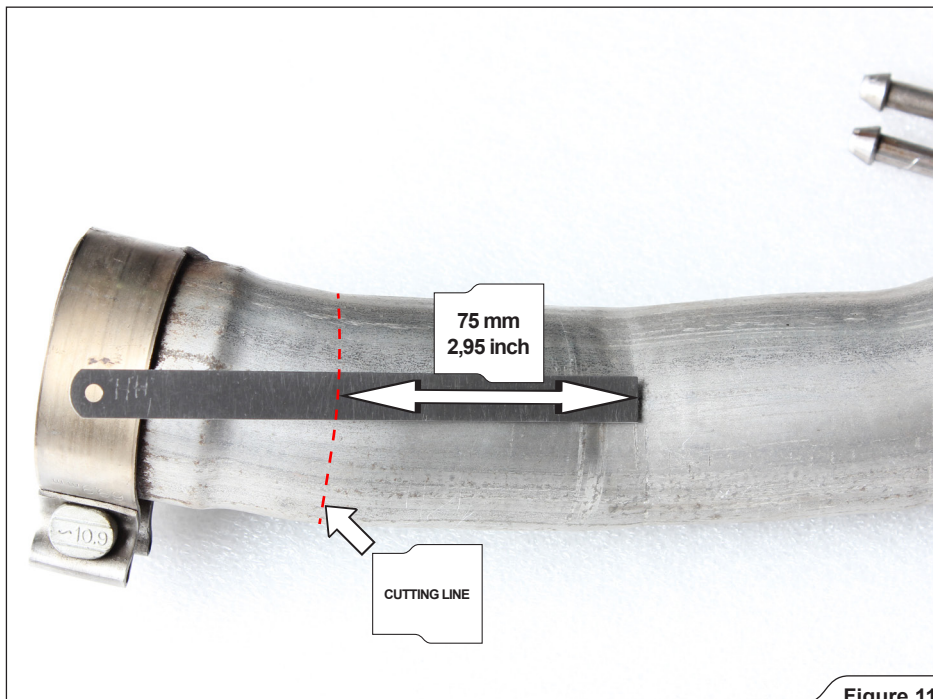

Figure 11
10. Mark the stock link pipes' outlets exactly as shown. Carefully cut the pipes at the marked cutting lines, using pipe cutting tool or equivalent (**Figure 11, 12, 13**).